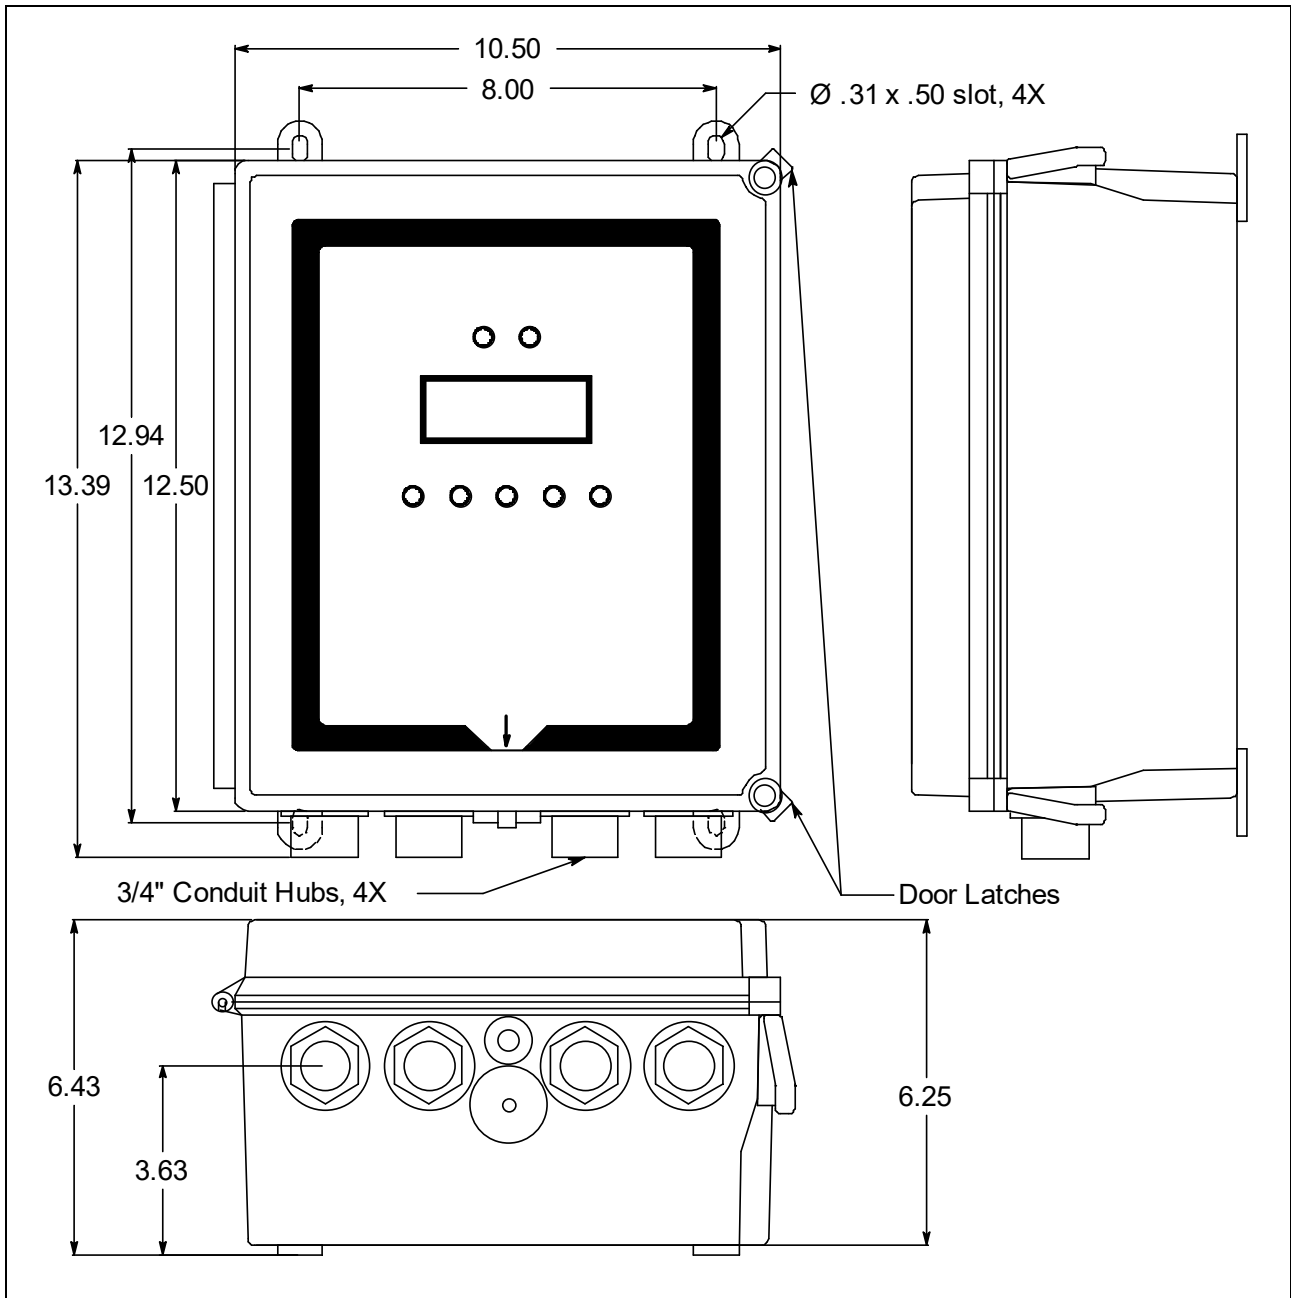

Figure 9: Beacon 410A Gas Monitor Outline and Mounting Dimensions
The Beacon 410A can be ordered with an alarm strobe light installed on the top of the housing. The Beacon 410A retains its NEMA 4X rating with the strobe installed. Strobe operation can be programmed in Configuration Mode (see “Chapter 6: Configuration Menu” on page 51). The outline and mounting dimensions with the alarm strobe are the same as the standard Beacon 410A with the exception of the height. The difference is shown below. See Figure 9 for all outline and mounting dimensions.
3. The Beacon 410A is shipped with the mounting feet positioned under the housing. Loosen the screws that secure the feet to the housing, rotate the feet to their mounting position as shown in Figure 9, then tighten the screws.
4. Prepare the selected mounting site as required to mount the Beacon 410A. It should be mounted at eye level (4 1/2 to 5 feet from the floor). Refer to Figure 9 for the outline and mounting dimensions.